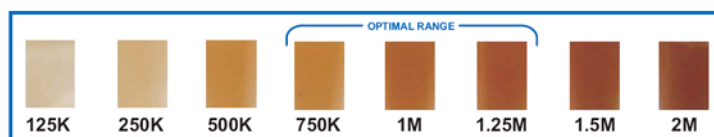
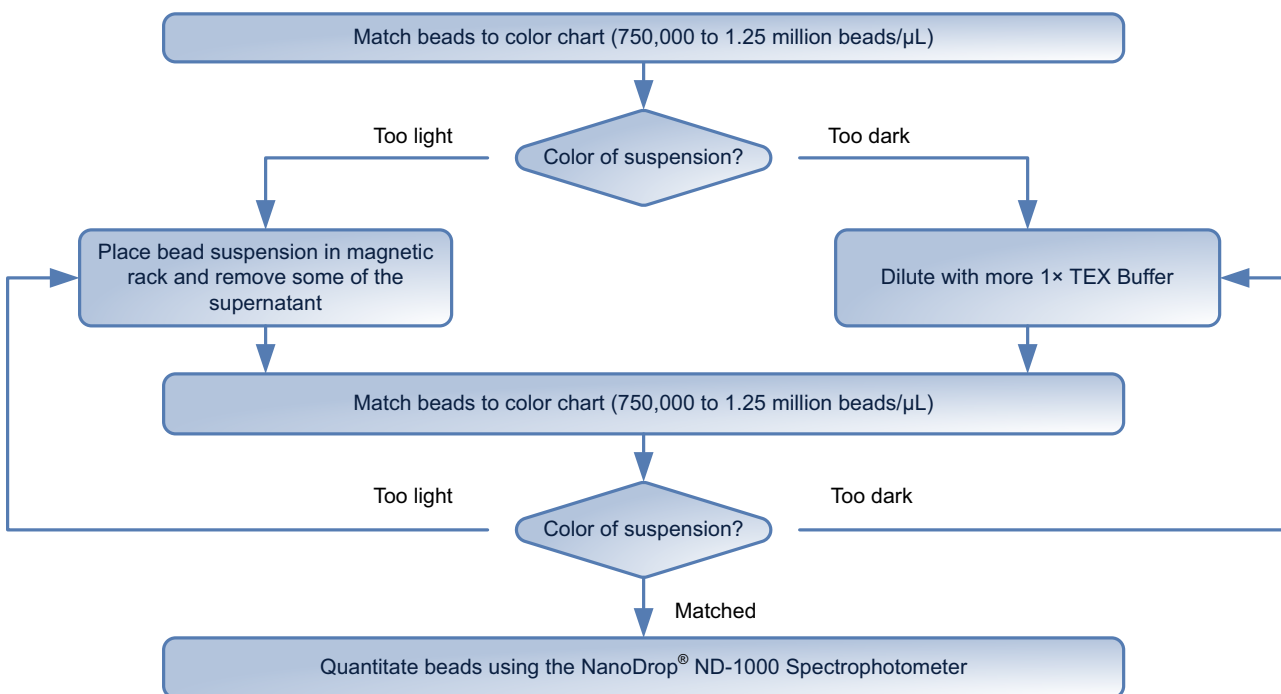

Figure 5 The SOLiD™ Bead Concentration Chart. For best results, use the *Applied Biosystems SOLiD™ Bead Concentration Chart* (PN 4415131), supplied separately.
Figure 6 SOLiD™ Bead Concentration Chart workflow.
2. If a WFA run has already been performed, use the results from the WFA report to estimate the bead concentration and proceed to step 5; otherwise, use the *Applied Biosystems SOLiD™ Bead Concentration Chart* (PN 4415131) to estimate the bead concentration (see Figure 5).
3. Adjust the volume of beads so that the color of the bead solution matches a color in the optimal range (750,000 beads/μL to 1.25 million beads/μL; see Figure 5 and Figure 6).